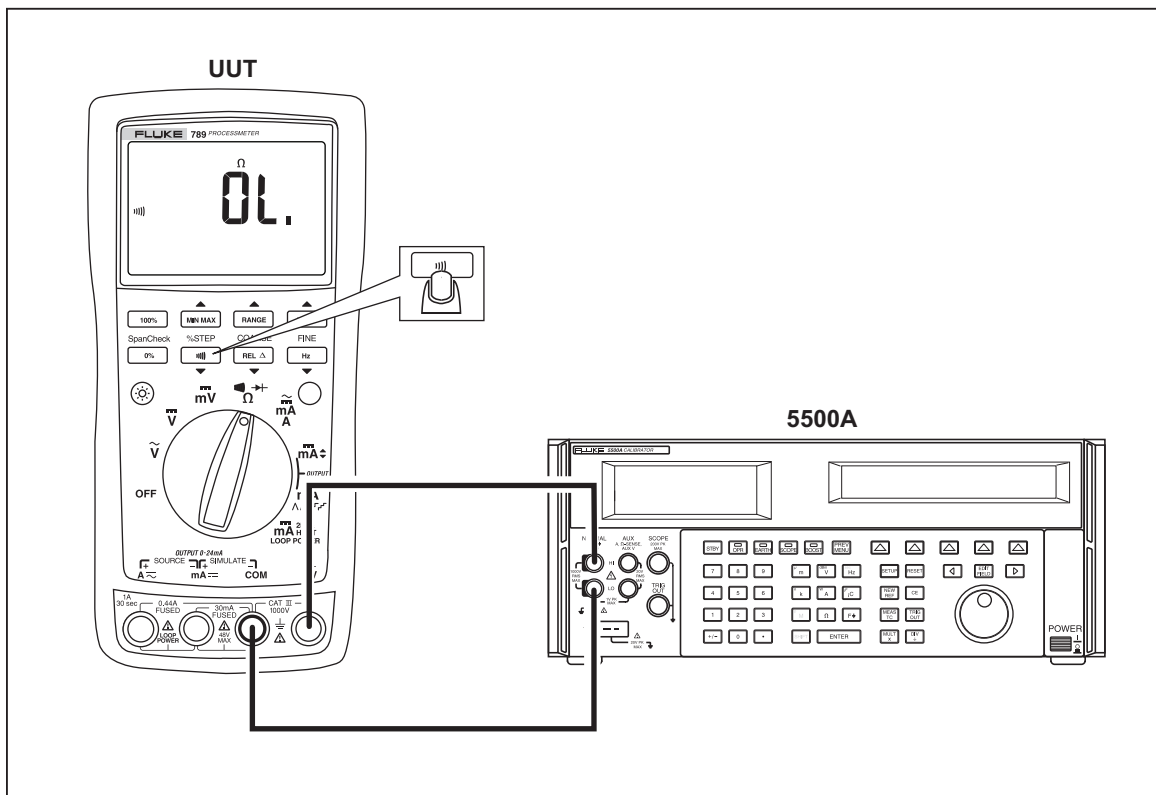

Figure 6. Continuity Test Connections
2. Connect the calibrator to the **COM** and  $\Omega$  terminals on the UUT as shown in Figure 6.